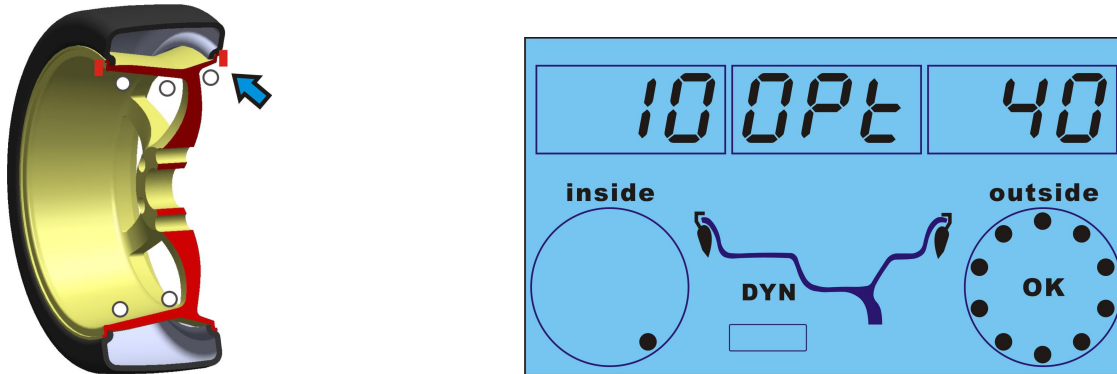

Fig. 3
4.1.6. Anticlockwise rotate wheel slowly, until the right LED lit up full, clip weight on 12 o'clock position (Fig.3)